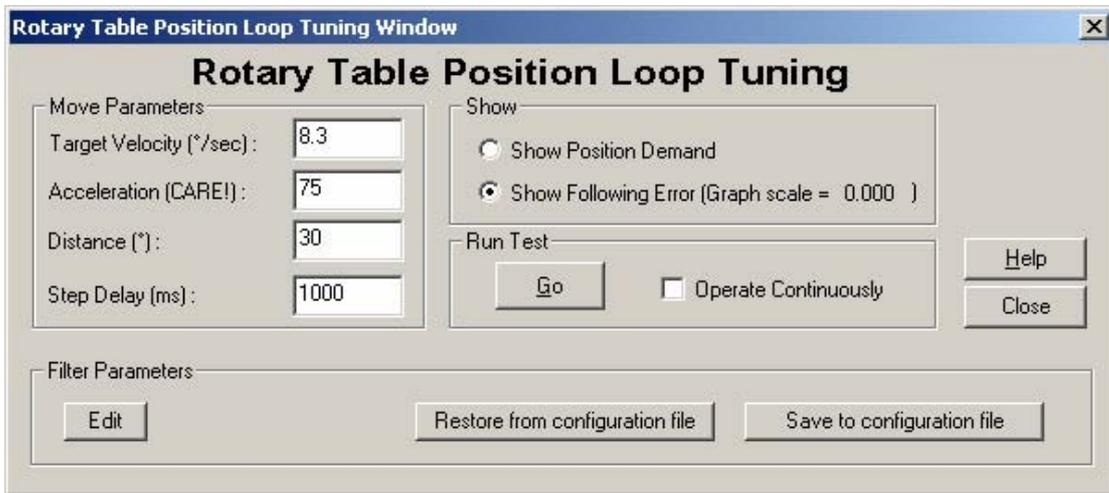

Figure 22
4. Repeat these steps, raising the values of K_A and K_{P1} until final values of K_A and K_P are found (see figure 22). The final value of K_P obtained during this process is referred to as K_{P3} .